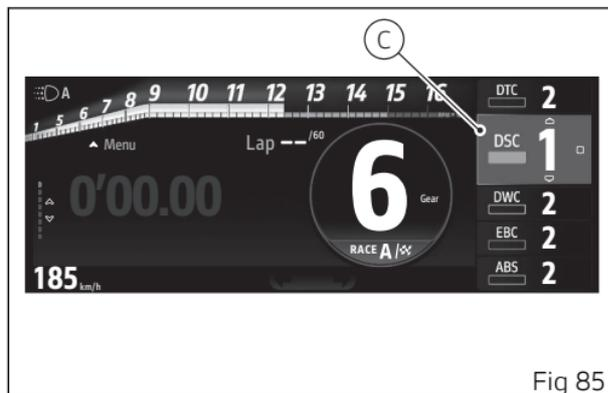

Fig 85
With the quick selection buttons (1) and (2) it is possible to scroll through the list of available parameters (in the example, Track Infomode, Fig 85). Press button (3) to change the level of the selected parameter: the selected parameter and its currently set level (C) are then displayed.